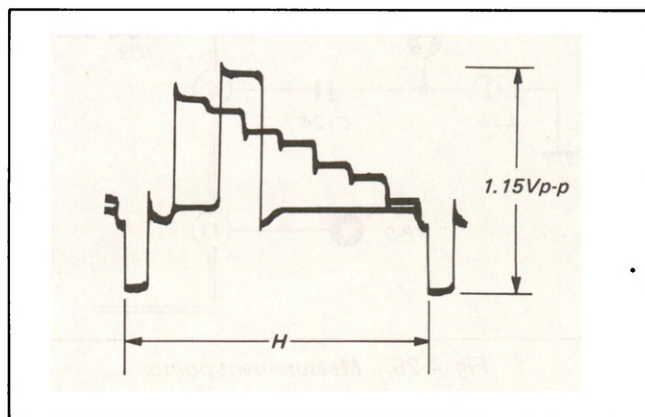

Fig. 4-23. Playback video output level adjustment
- (1) Play back the color bar signal segment of the alignment tape.
- (2) Set the TRACKING CONTROL knob to the point where the best tracking is obtained.
- (3) Connect the oscilloscope to TP13.
- (4) Adjust RV5 for 1.15 Vp-p. (See Fig. 4-23.)